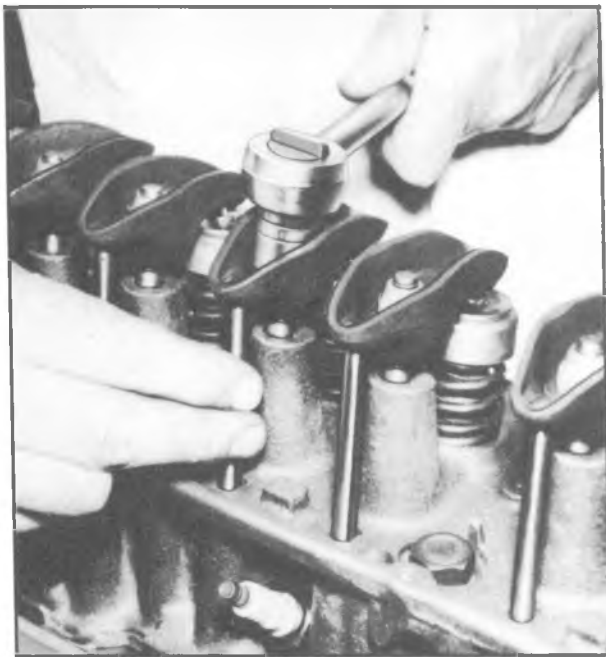

Fig. 6A-12--Valve Adjustment
- c. Back out adjusting nut until lash is felt at the push rod then turn in adjusting nut until all lash is removed. This can be determined by checking push rod end play while turning adjusting nut (Fig. 6A-12). When play has been removed, turn adjusting nut in one full additional turn (to center lifter plunger).